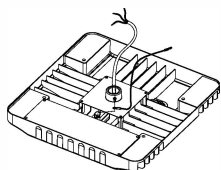

Figure 1
1. Attach one side of the safety rope to the back of the fixture (Figure 1).